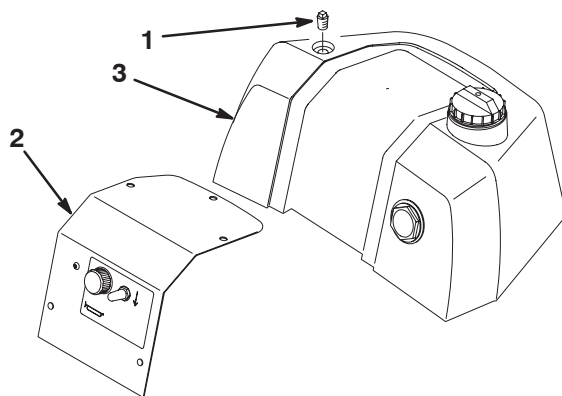

Figure 2
3. Remove the pipe plug from the top of the auxiliary tank (Fig. 2)
8. Remove the 5 capscrews and washers securing the cover plate to the auxiliary hydraulic tank (Fig. 2). Remove the cover from the tank.